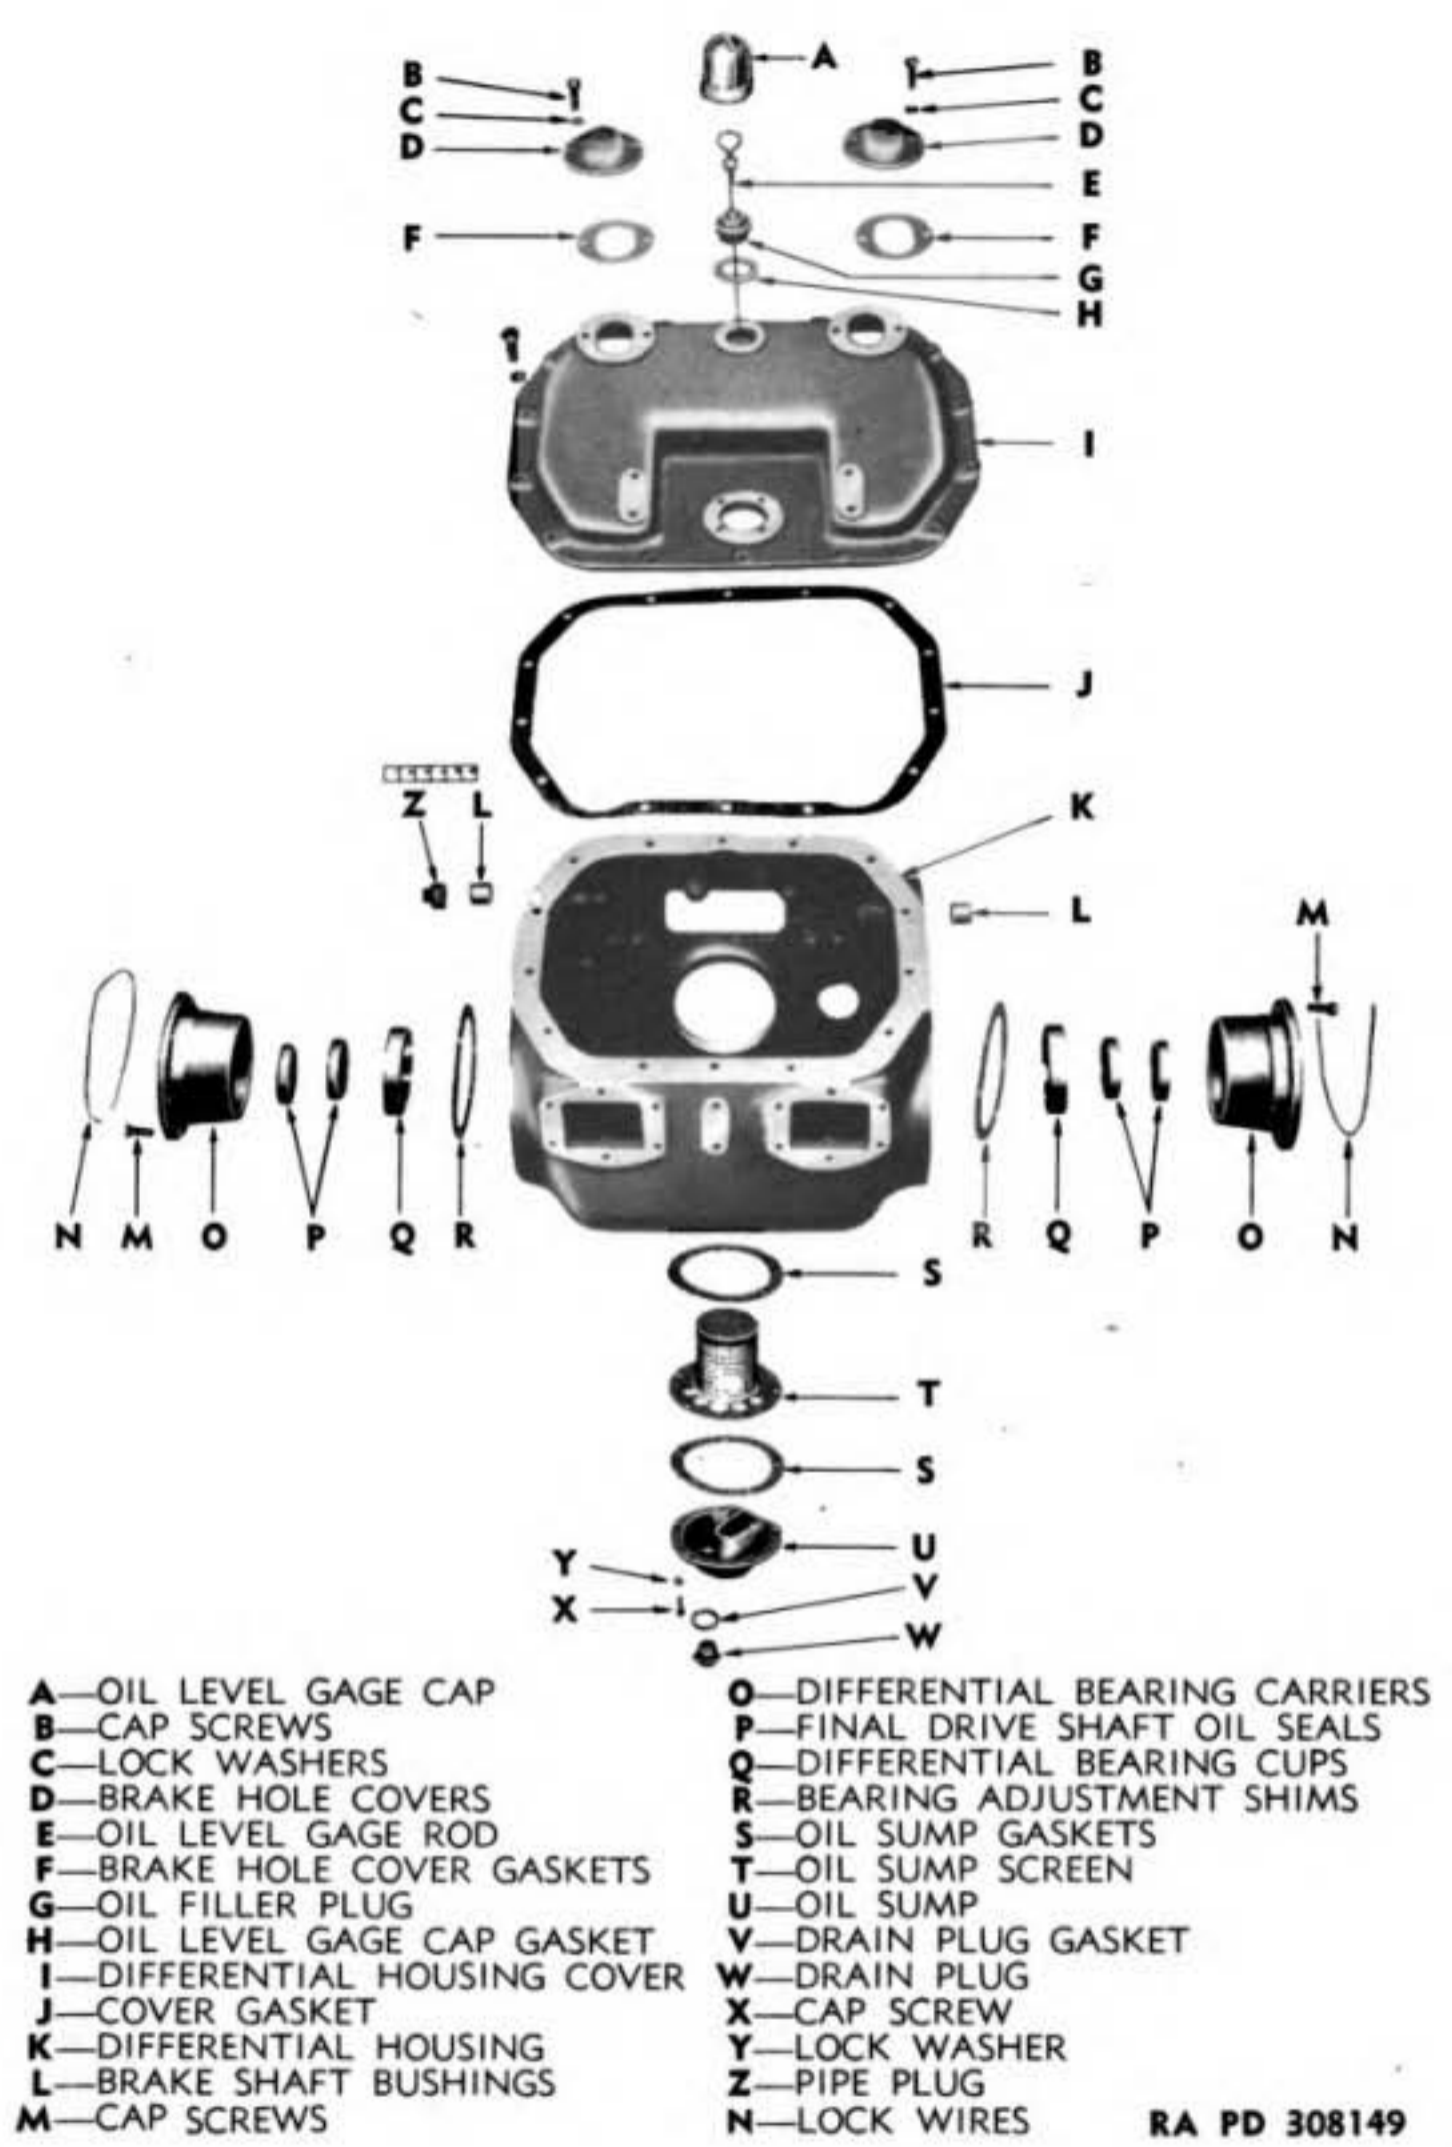

Figure 49 – Differential Case and Covers Disassembled
(4) DIFFERENTIAL CASE (fig. 49). File off any burrs on machined surfaces that would prevent correct contact of mating parts. Inspect case for cracks or breaks and inspect drain plug magnet to make sure it will attract small metal particles.